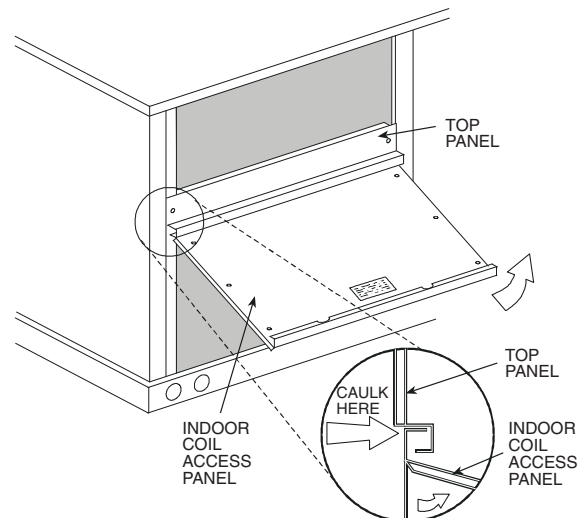

Fig. 15 — Indoor Coil Access Panel Relocation
1. The indoor coil access panel will be used as the top of the hood. If the panel is still attached to the unit, remove the screws along the sides and bottom of the panel. See Fig. 15.
8. Caulk the ends of the joint between the unit top panel and the hood top as shown in Fig. 15.